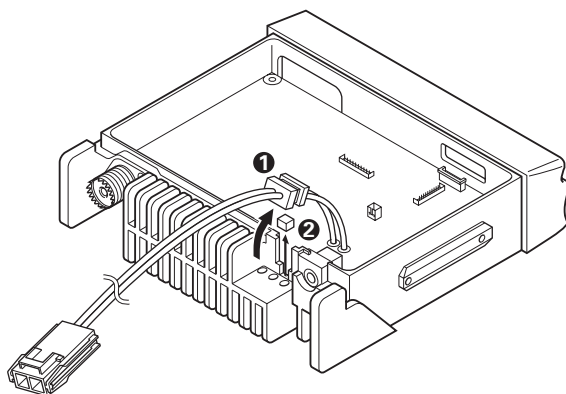

Fig. 3
1. Lift the DC cord bushing (❶) from the chassis. Peel the pad as shown in Figure 3 (❷).